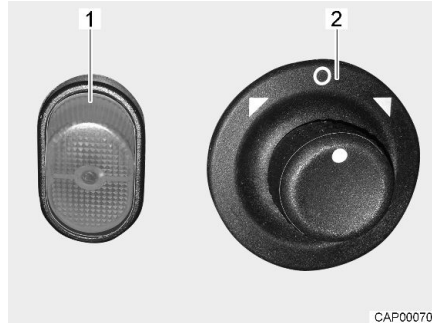

Fig. 13 Switch (electrically adjustable external mirrors)
- Select the mirror to be adjusted. To do so, turn the rotary switch (Fig. 13,2) to the left or right.
- Adjust the mirror. In order to do this, push the switch (Fig. 13,2) towards the desired direction.
- Press the switch (Fig. 13,1). The indicator lamp in the switch glows orange and indicates that the mirror heater is in operation.